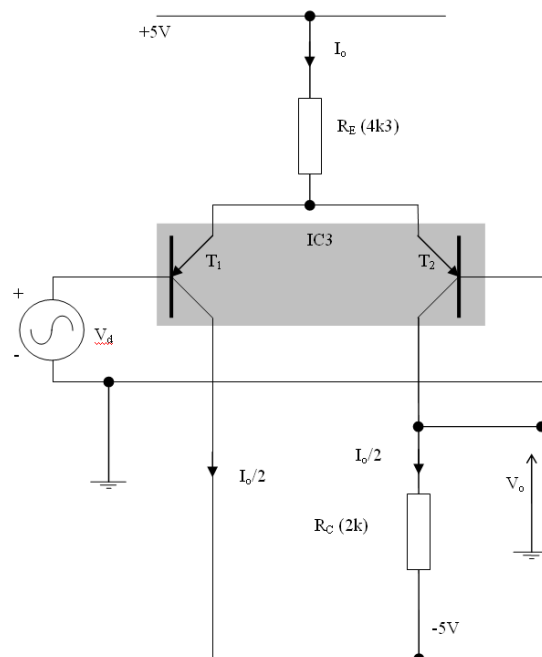

Figure 11 The long tailed pair
Probably the most important input stage used in amplifier design is the emitter-coupled differential amplifier, better known as the Long Tailed Pair (LTP). It is a directly coupled amplifier with high differential-mode voltage gain, but has a low voltage gain to common-mode input signals (such as noise appearing on the two inputs). Figure 11 shows a typical LTP amplifier.
- v. The joint collectors of  $T_{1(6)}$  and  $T_{2(6)}$  of Block (2) should now be connected to the base-collector connection of  $T_{1(9)}$  in Block (3). This forms the driver source of Block (3).
- vi. The collector of  $T_{2(5)}$  in block (2) should also be connected to the base-collector of  $T_{1(7)}$  in block (3). Remember that the value of  $R_2$  should be chosen to supply a collector current of 1 mA to  $T_{1(7)}$ .
- vii. Note that in going from Figure 11 to Figure 2, the inverting and non-inverting inputs have become swapped round (why?).